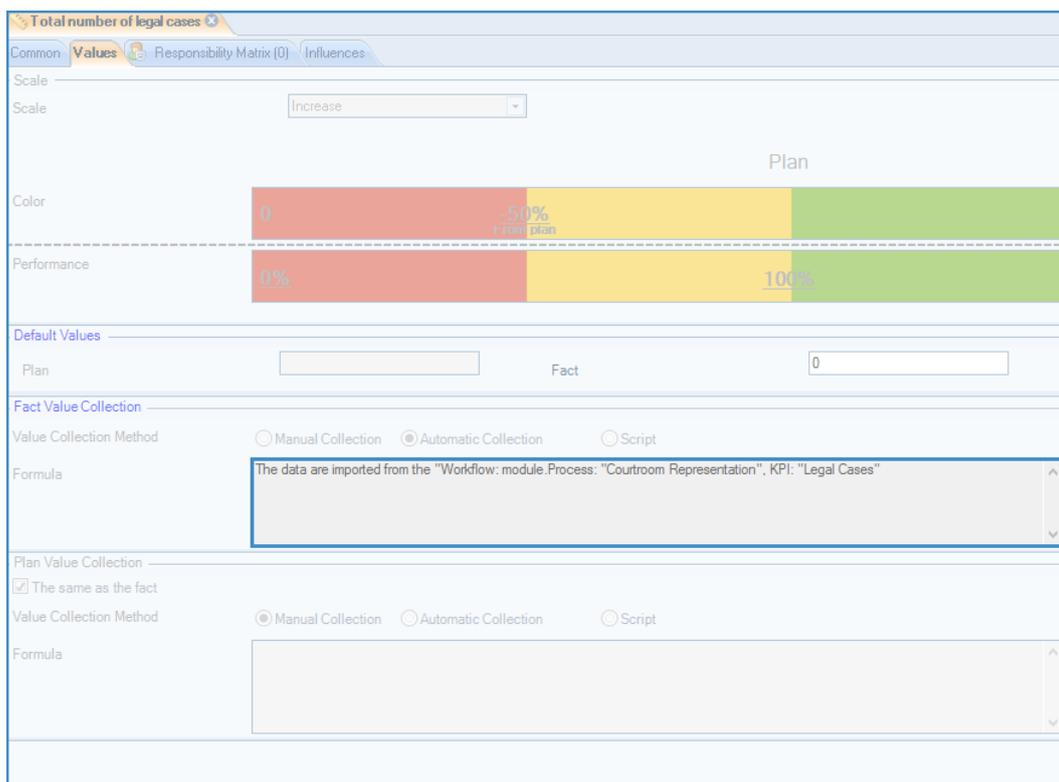

Fig. 42. Relationship between KPI and business process indicator
- Linking indicators in **ELMA Designer** will automatically open the KPI page. Go to the **Values** tab. **Fact Value Collection** method will be defined as **Automatic collection**. **Formula** block will display the name of the process that you used for data collection (Fig. 42).